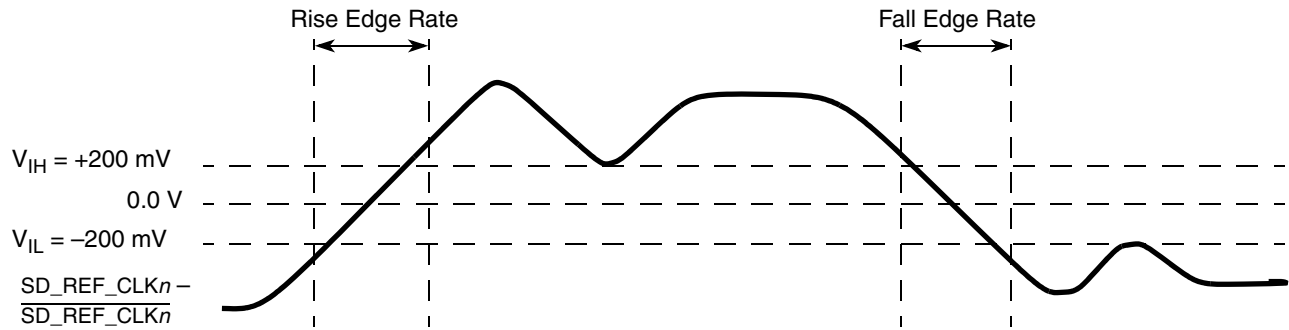

Figure 37. Differential Measurement Points for Rise and Fall Time
only one signal trace curve in a differential waveform. The voltage represented in the differential waveform is not referenced to ground. See Figure 37 as an example for differential waveform.
3. Measured from −200 mV to +200 mV on the differential waveform (derived from SD_REF_CLK \bar{n} minus $\overline{\text{SD_REF_CLK}}_n$). The signal must be monotonic through the measurement region for rise and fall time. The 400 mV measurement window is centered on the differential zero crossing. See Figure 37.